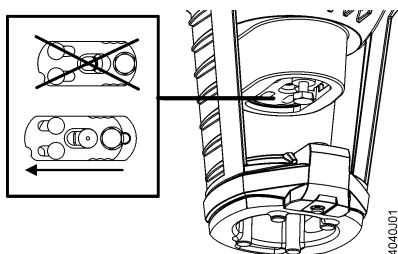

Figure 3.
1. Ensure stem connection plate in the Valve Stem Coupling is in the OPEN position. See Figure 3.